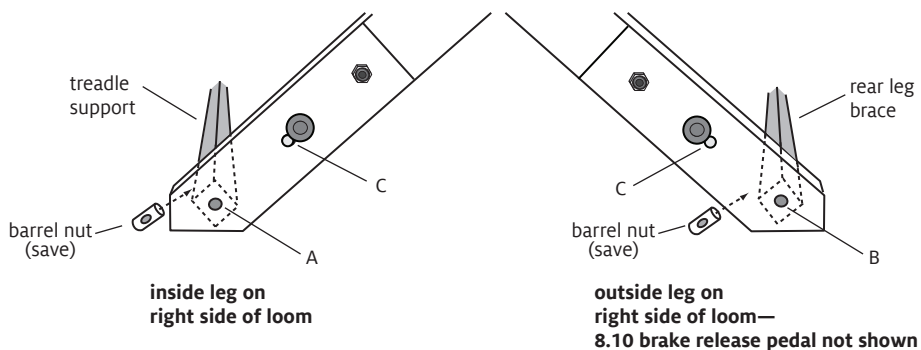
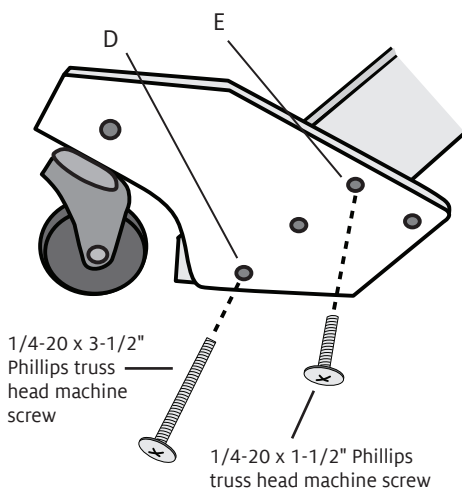

FIGURE 6: WOLF PUP 8.10 AND LT LEGS
FIGURE 7: FRONT CASTER BLOCK AND INSIDE LEG
2. Set the treadle support on a block of wood or a few books to elevate the loom front about two inches. Remove the machine screws and barrel nuts that hold the treadle support to the inside legs at hole [A] (Figure 6). Save the barrel nuts for the next step.
4. Set the treadle support on a block of wood or a few books to elevate the loom front about two inches. Remove the machine screws and barrel nuts that hold the treadle support to the inside legs at hole [A] (Figure 6). Save the barrel nuts for the next step. Set a caster block on the outer side of an inside leg, with the caster wheel toward the front and the floor (Figure 7). Line up hole [D] at the bottom of the caster block
to hole [A] in the leg. Insert a 1/4-20 x 3-1/2" Phillips truss head machine screw through the bottom hole [D] in a caster block, then through the bottom hole of an inside leg height extender block (Figure 6). Thread the machine screw into a barrel nut in the treadle support and tighten, using a slotted screwdriver to hold the barrel nut in position. Repeat with a second caster block and the other inside leg.
5. Insert a 1/4-20 x 1-1/2" Phillips truss head machine screw into the top hole [E] of a caster block (Figure 7). The screw will thread into an insert in the height extender block that you cannot see; fasten securely. Repeat for the other inside leg height extender block.
7. Set the rear leg brace on a block of wood or a few books to elevate the loom back about two inches. Remove the machine screws and barrel nuts holding the rear leg brace to the outside legs at hole [B] (Figure 6, page 6).